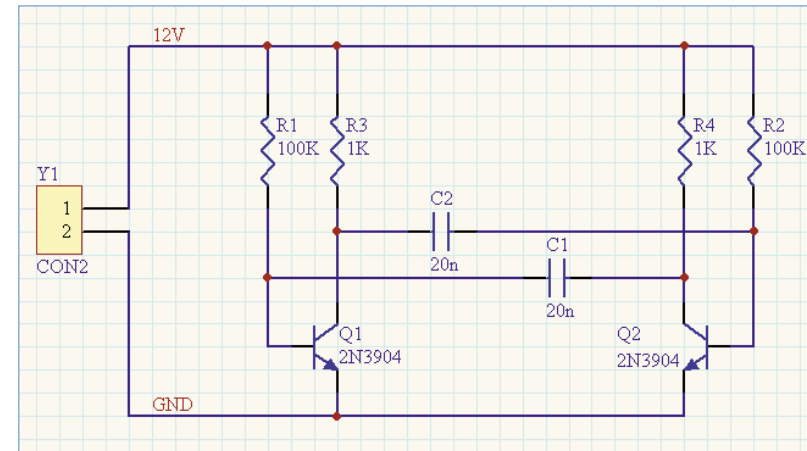

Figure 3
- Wire up the rest of your circuit, as shown in Figure 3.
- Place the net label such that the bottom left of the net label touches the upper most wire on the schematic, as shown in Figure 3.
- Type GND in the **Net** field, click **OK** to close the dialog, then place the net label as shown in Figure 3.
A wire that crosses the end of a pin will connect to that pin, even if you delete the junction. Check that your circuit looks like Figure 3 before proceeding.